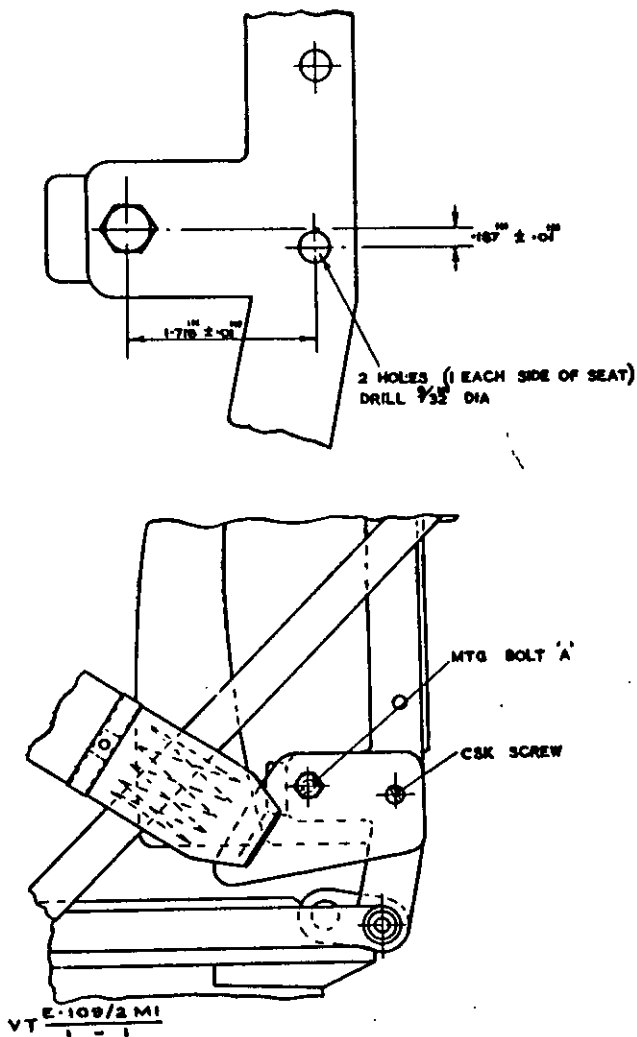
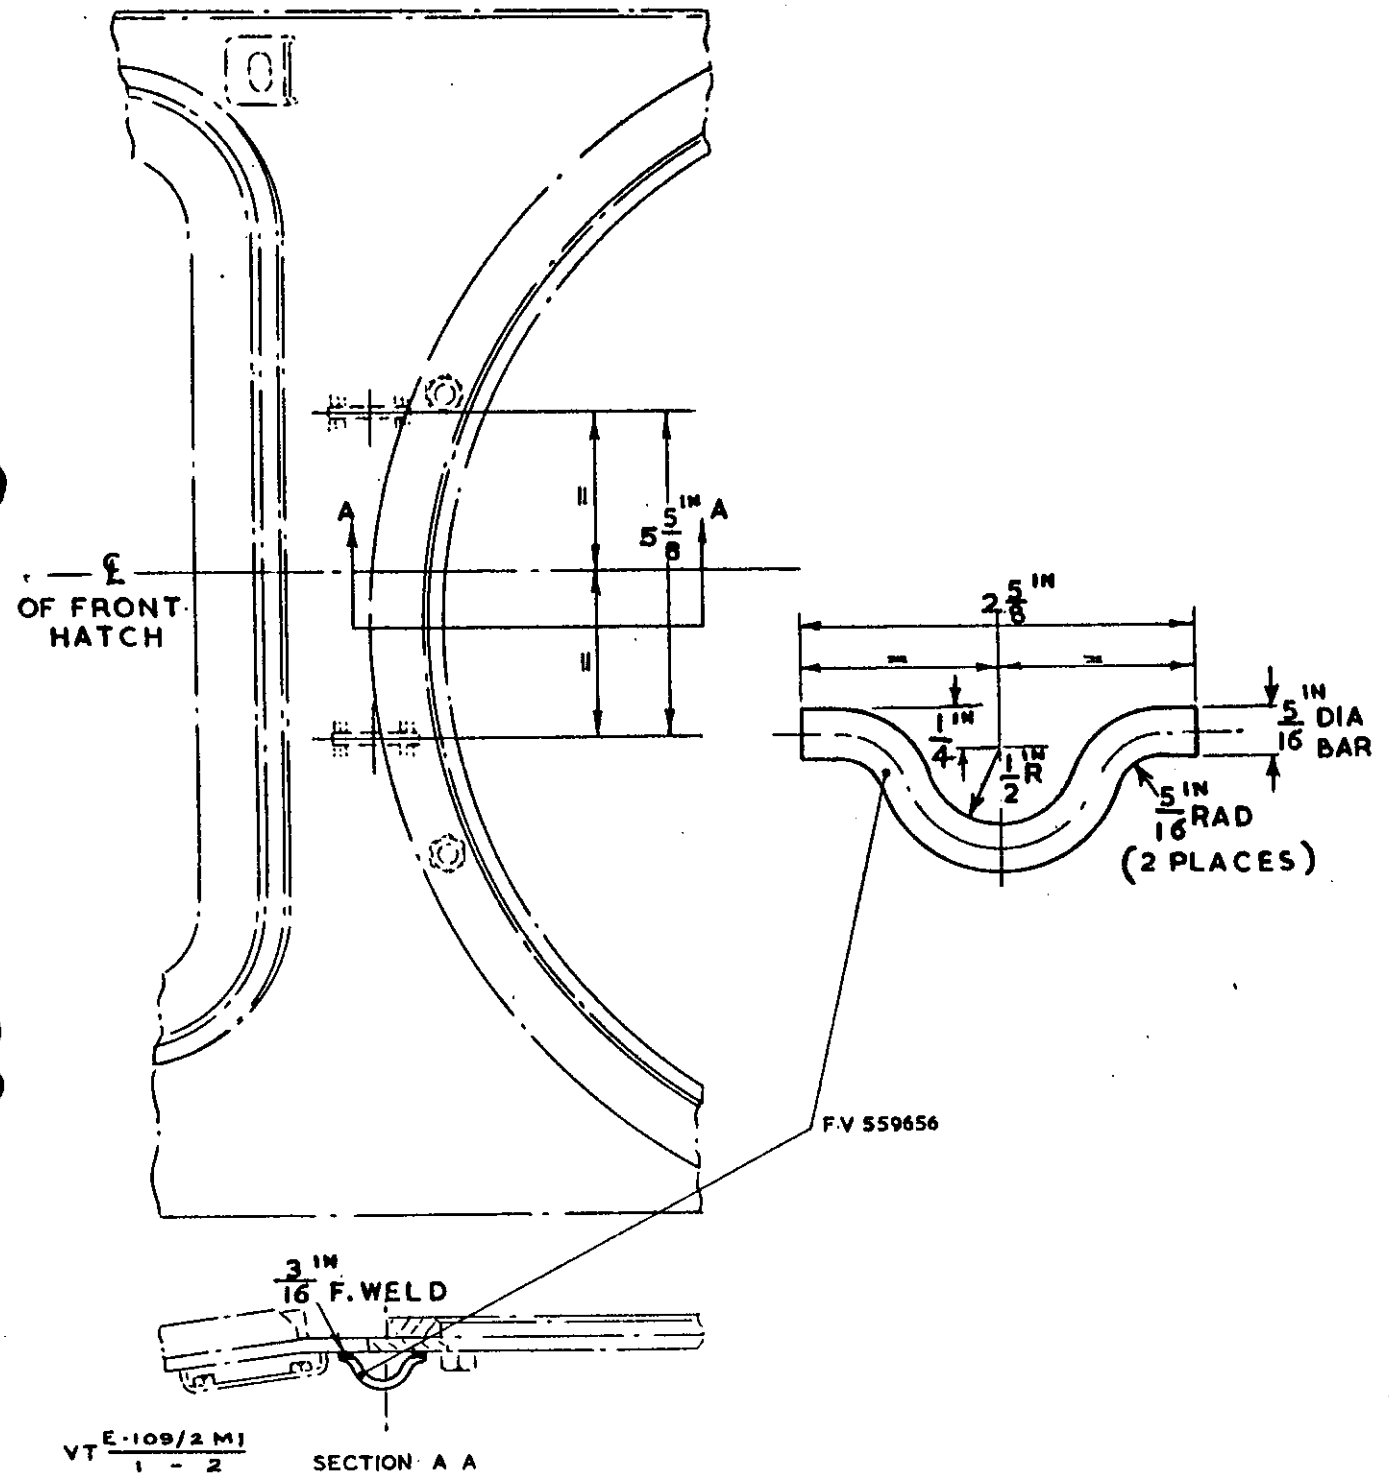

Fig 1 - Driver's harness mounting detail
Fig 2 - Welding cleats to roof plate
- (b) See Fig 1. Remove seat back frame bolts (A), retaining the nuts and washers. Mark off and drill a 9/32 in. dia. hole in each side member of the back rest to the dimensions shown.
- (c) When driver's harness is available, secure harness plates to the seat frame, using 1/4 in. x 7/8 in. bolts, original nuts and washers for frame holes (A), and 1/4 in. x 5/8 in. countersunk screws with self locking nuts for the new mounting holes.
- (d) See Fig 2. Manufacture and weld two cleats to the front centre roof plate in the positions shown.